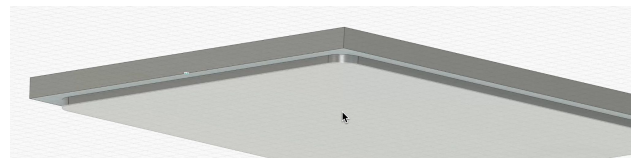

Figure 1.5
- Another modification we want to do is to the ledge that's sticking down. Right now it's the same size as the opening (see Figure 1.5).